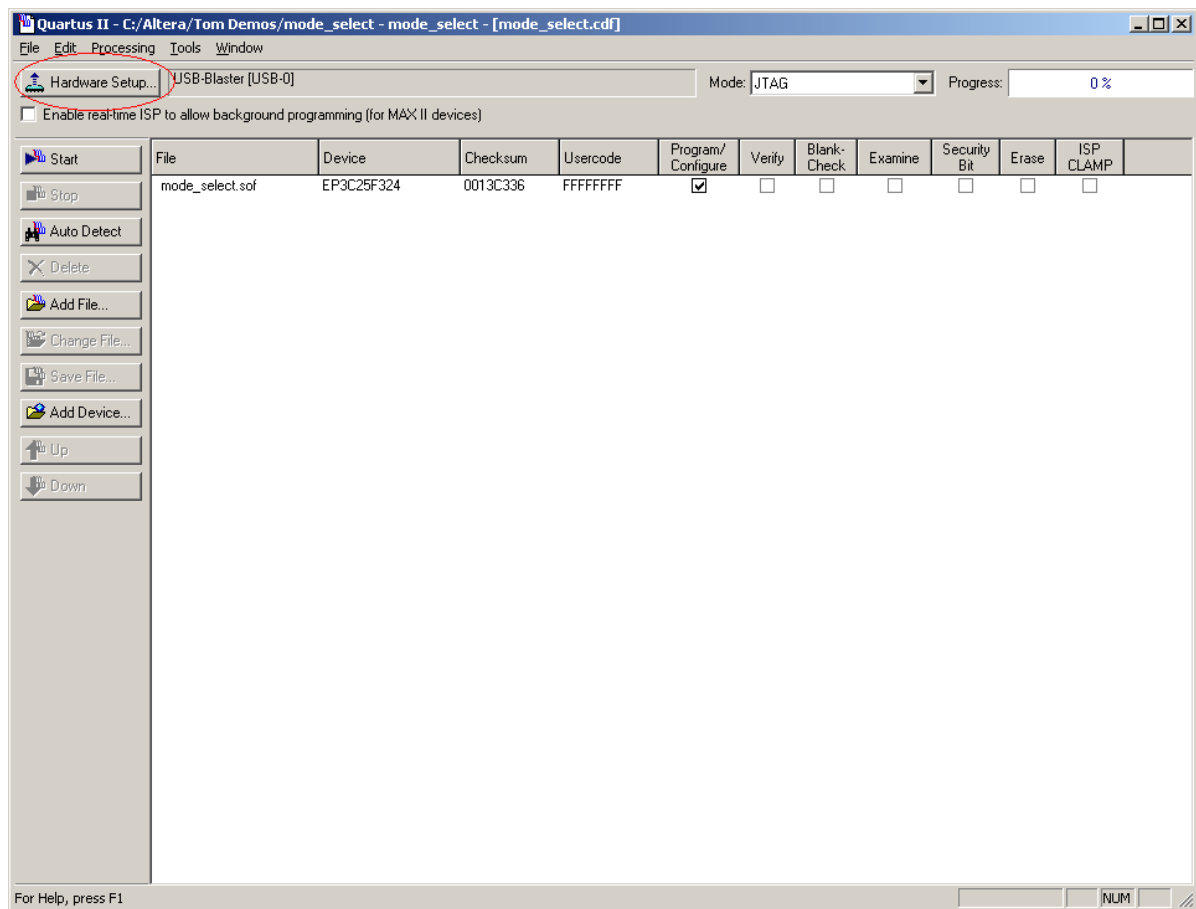

Figure 7 : Click on the "hardware setup" button
4. The window shown in Figure 7 should appear. Click on the “Hardware Setup” button.